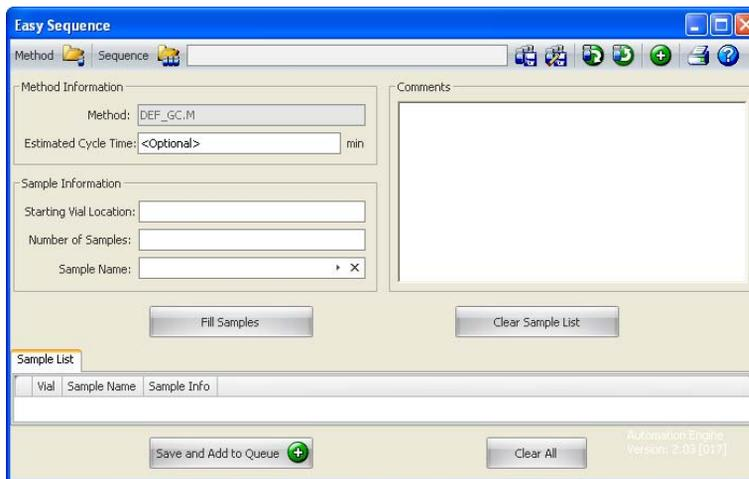

Figure 5 Easy Sequence
- 4 Navigate to **Easy Sequence > Edit/Execute Easy Sequence...** to define your samples and create a sequence using Easy Sequence (Figure 5).